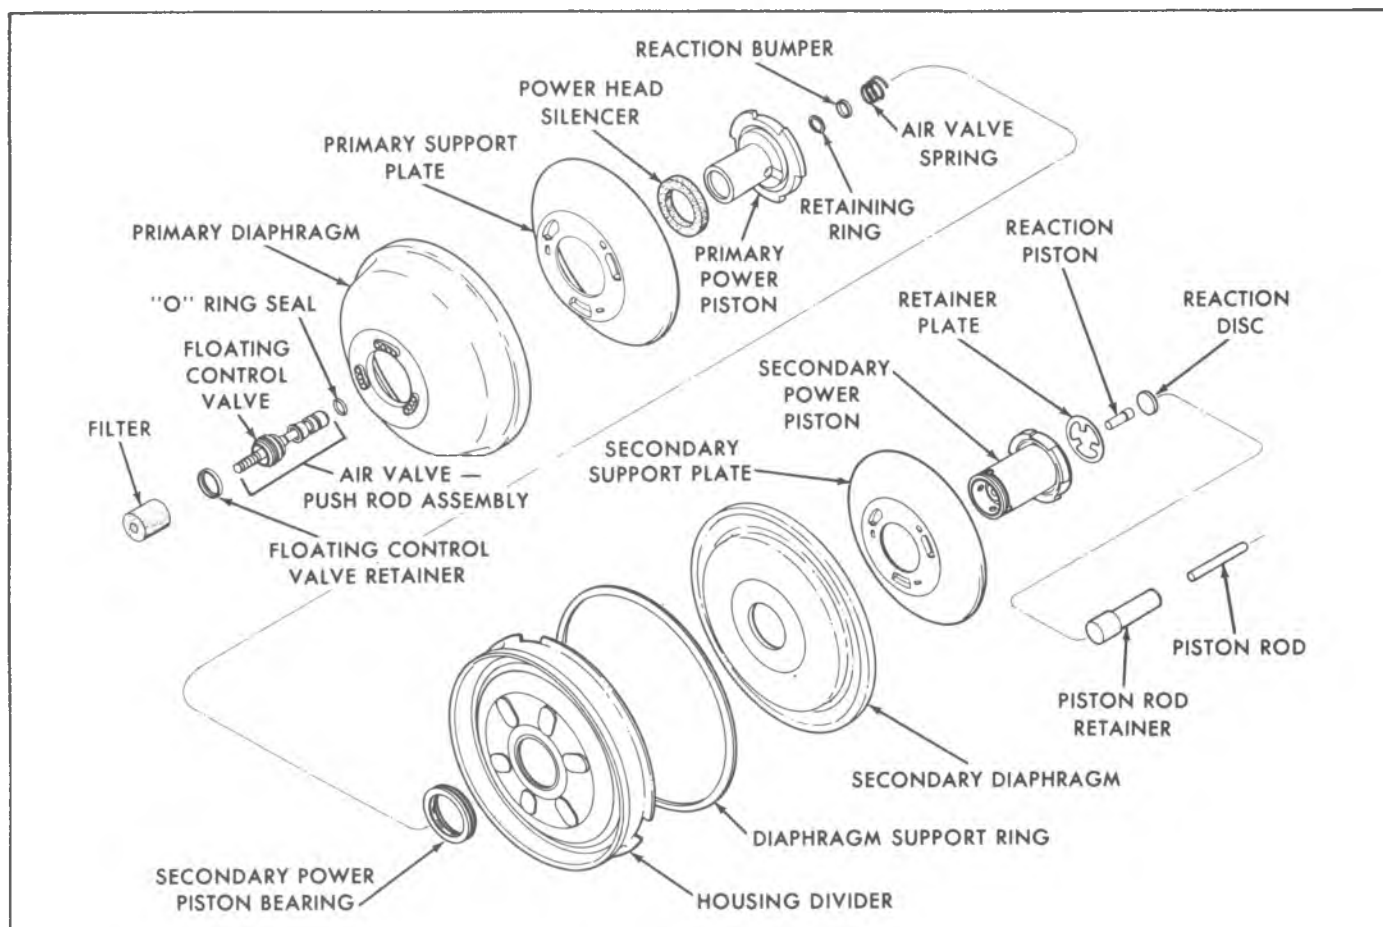

Fig. 3B--Power Piston Group
1. Lift the head on the O.D. of the secondary diaphragm and remove the diaphragm support ring (fig. 3B).